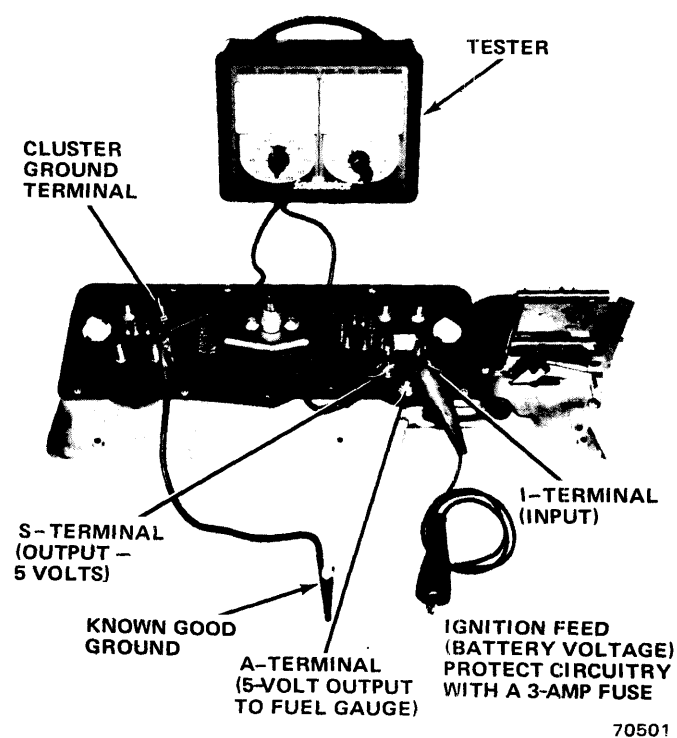

Fig. 3-65 Testing Temperature Gauge—
- (1) Disconnect battery negative cable.
- (2) Remove instrument cluster and disconnect all electrical connections.
- (3) Connect a jumper wire from cluster ground terminal to known good ground (fig. 3-65).